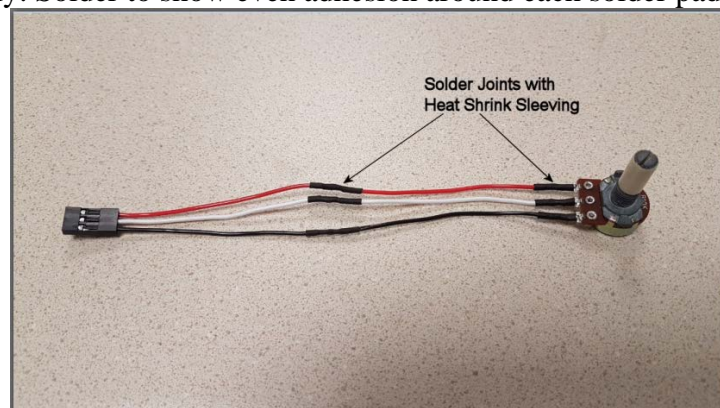

Figure 2
- Solder joints to potentiometer and wire extensions are to be covered with heat shrink (figure 2). Wire lengths are to be kept the same. Take care for any exposed wire not properly covered by the heat shrink. Ensure that the heat shrink is properly and evenly shrunk and covers all exposed areas of the wire and solder joint.